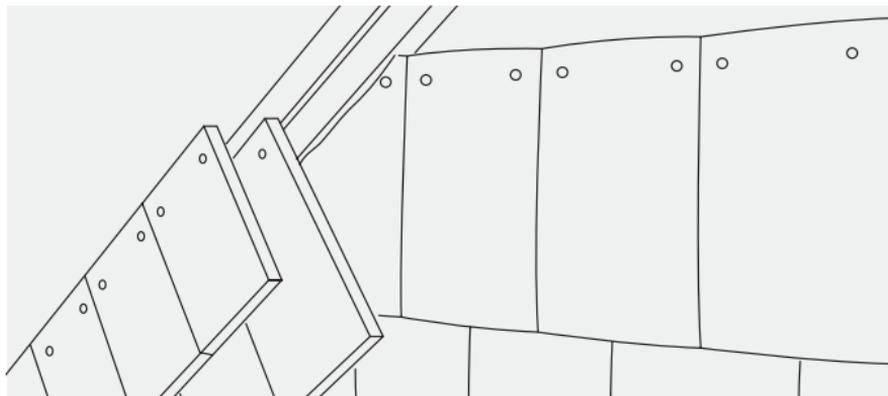

Fig. 32 – Fixing double soldier course of tiles to raked batten
- 3 Fix courses of eaves/tops tiles to raking batten (Fig. 32).
- 3 Fix courses of standard Plain tiles to lower of two raked battens, then fix course of eaves tiles to remaining (top) raked batten (Fig. 32).